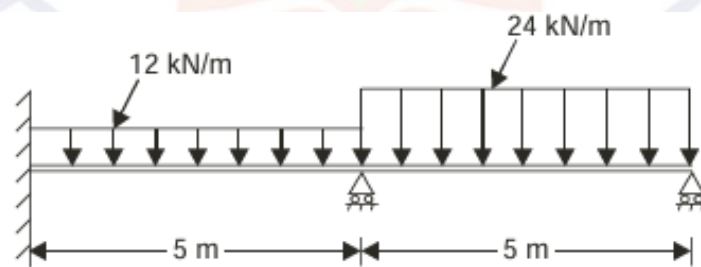

Figure 4:
- b) Analyse the beam shown in Figure. 4 by finite element method and determine the end reactions. Also determine the deflections at mid spans given